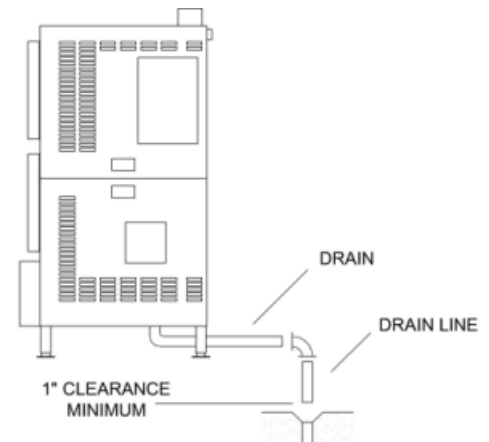

Figure 3-2
3. Free air venting requires a minimum 1" clearance between the end of the drain line and the top of the floor drain. See Figure 3-2.
- d. Install main manual valve between the gas supply and the appliance. See Figure 3-2. This main manual shut off valve is called the "Main Manual Gas Valve."